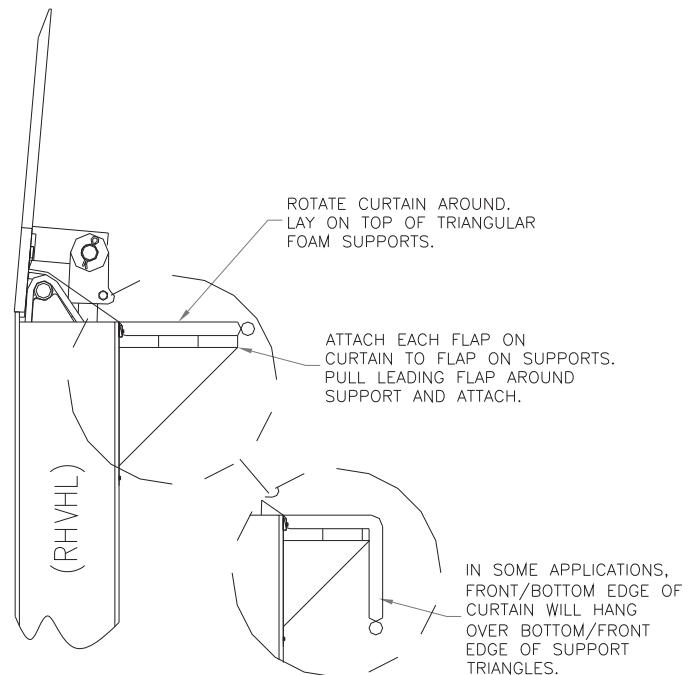

FIGURE 6
- 15) Make sure rods are centered in their pockets, then rotate the main curtain back around on top of the supports. Attach the Velcro tabs on curtain to the Velcro flaps on supports. (See Figure 6.) In some applications, the supports may only have two Velcro flaps even though the curtain will have 3 Velcro tabs. In these cases, the lower portion of the curtain should be allowed to hang over the front/bottom edge of the supports. (Note: The main curtain should be either perpendicular when coming off the leveler or slightly angled backward toward the pit floor. This is to make sure curtain does not skip past the leading edge of the pit floor. Adjust if necessary.)